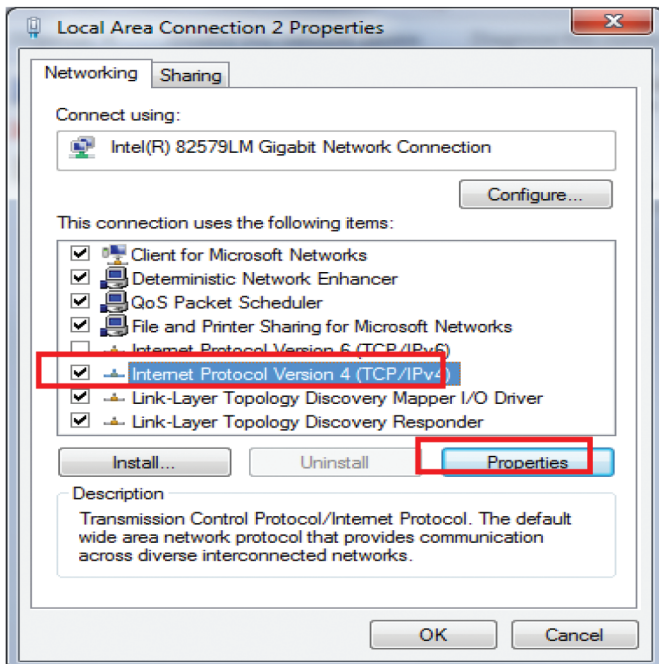

Figure 3: Internet Protocol
5. Select “Internet Protocol Version 4 (TCP/IPv4)” and then click “Properties” (see Figure 3)